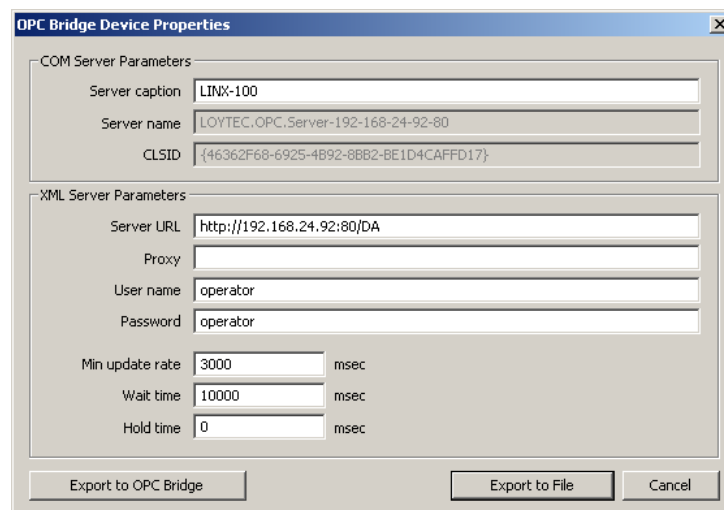

Figure 149: Bridge Export dialog
4. In the **OPC Bridge Device Properties** dialog as shown in Figure 149, add information which is not default, i.e., Min update rate, Wait time and Hold Time (see Section 8.3.6). If the operator user has a non-default password, enter the password.